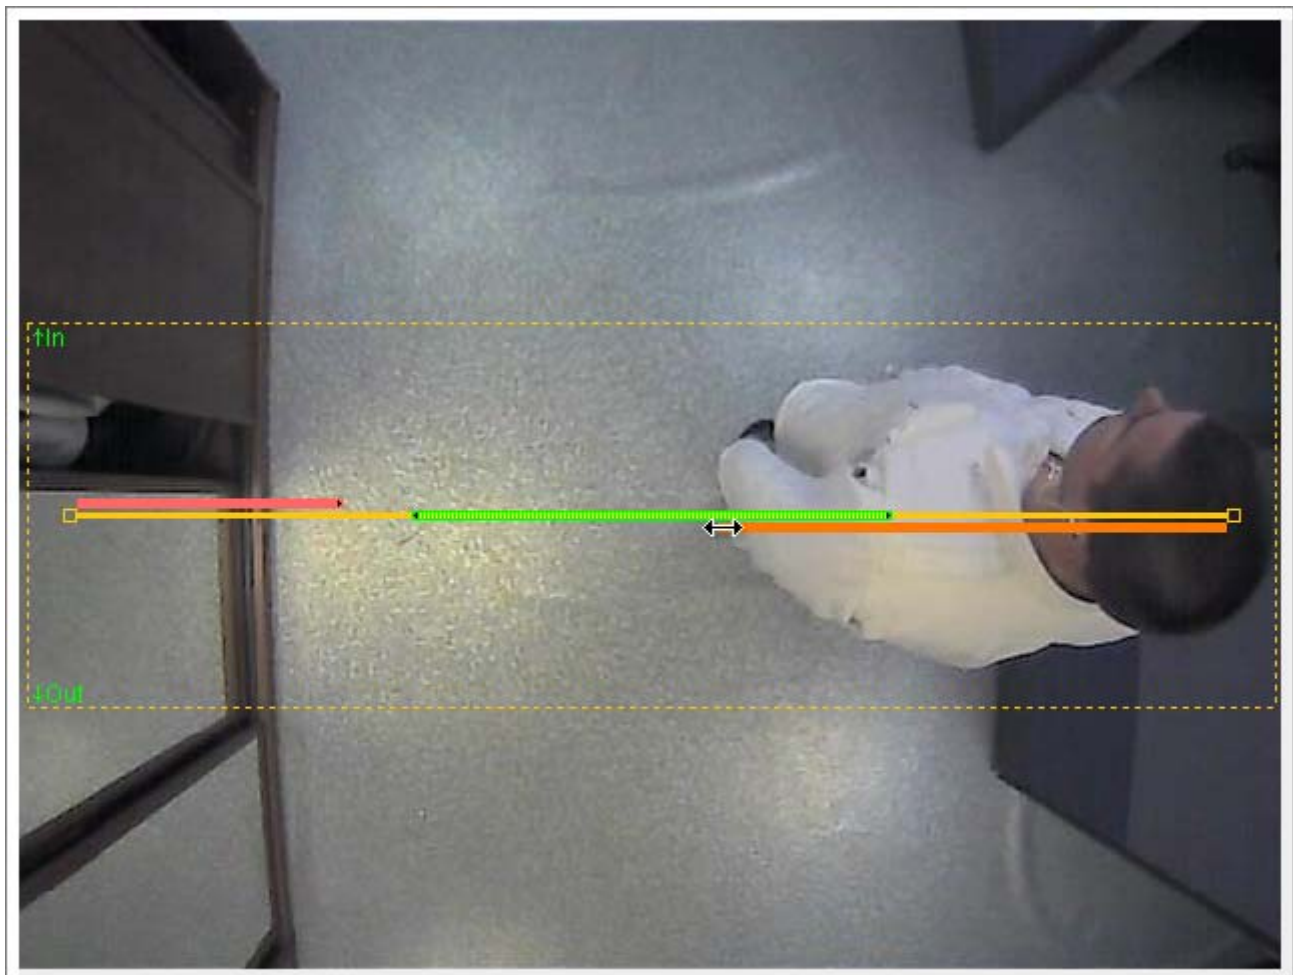

Figure 49: using gauges for people counting line ends calibration.
6. Ask your assistant to move to the left /right end of the People counting line (Figure 49) and use corresponding gauges to adjust line edges. Red gauge for the left-end position and orange gauge for the right-end position. Adjust their lengths in the same way as you did for the central gauge: drag the gauge's handles or use the gauges length controls to adjust the size (in % from the camera's field of view width).